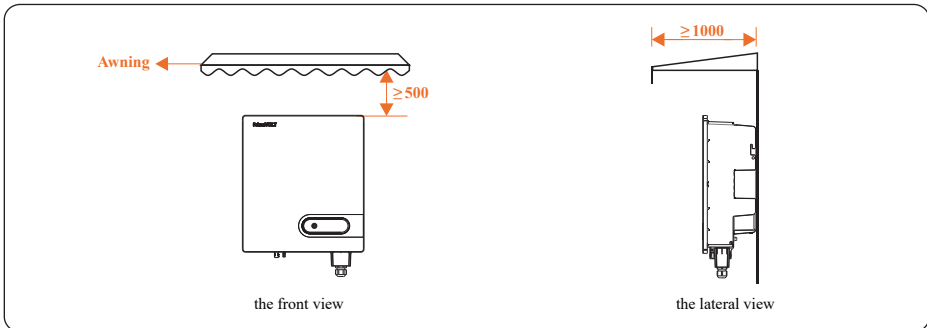

Figure4.2 Installation environment with awning (unit: mm)
- The inverter must be free from direct exposure to sunlight, rain, and snow to extend its service life. It is recommended that the inverter be installed in a sheltered place. If no shelter is available, build an awning, as shown in Figure 4.2.